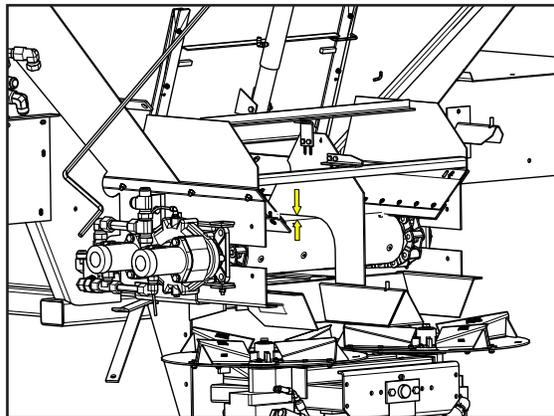

Figure 9
12. Figure 9 - Lastly, ensure that the Hillside Divider panel has proper clearance from the belt. The bottom edge of the divider panel should be approximately 3/8" (1cm) from the rubber belting of a #4 BOC.